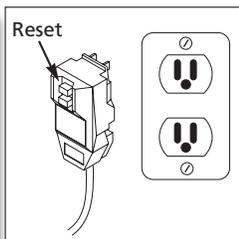

Fig. 13
- Unwind the power cord completely and plug the GFCI into a grounded 120 volt outlet. Press the ‘reset’ button on the GFCI box (Fig. 13). The indicator window should show a red color. This must be done each time the unit is plugged in.